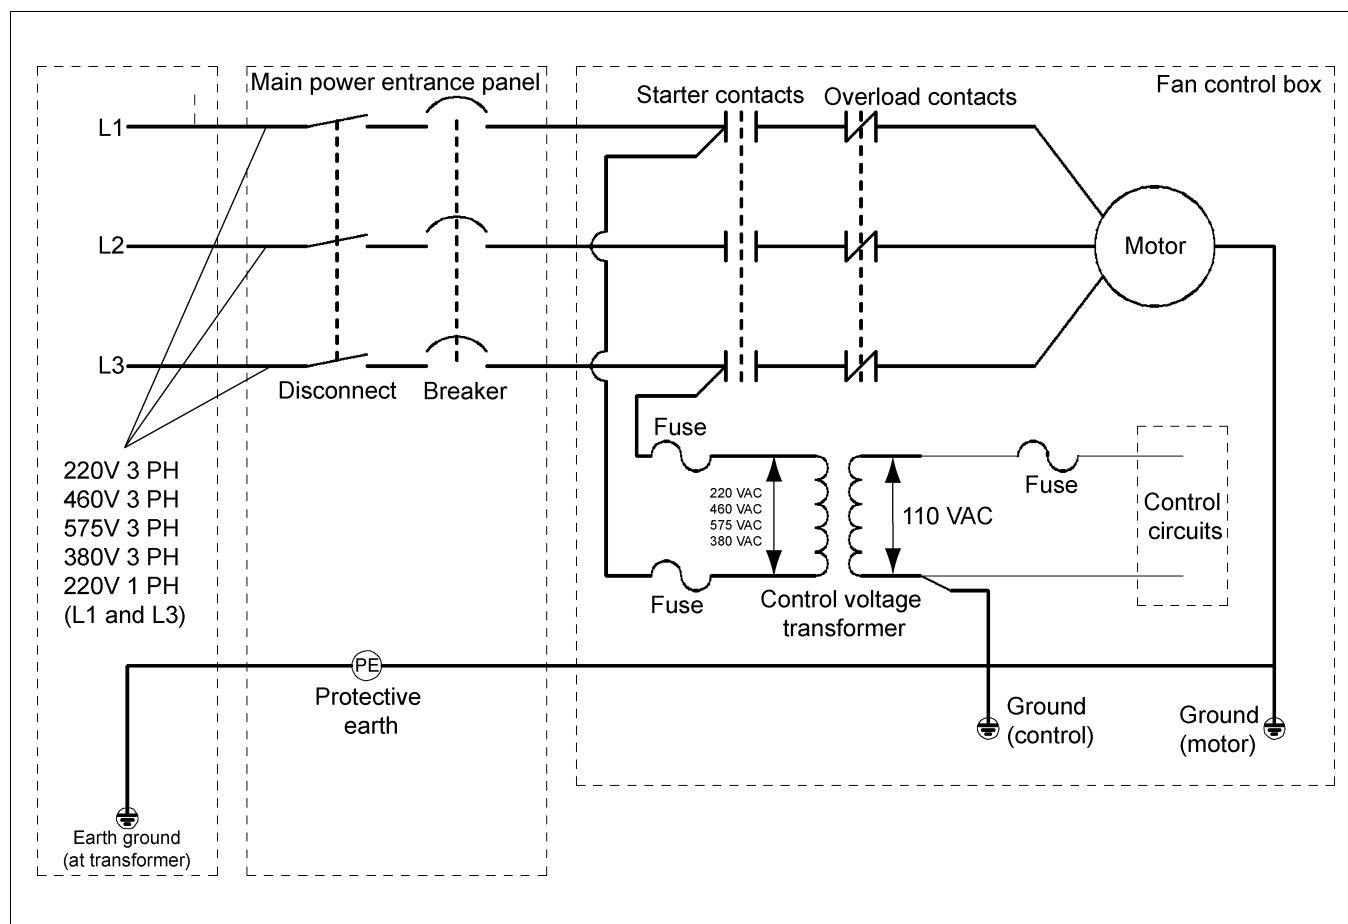

Figure 3F
**Figure 3F** details the configuration for correct main power installation. Use the diagram in conjunction with the electrical load information and wire size information provided. The diagram details the correct main power installation for 220V 1 PH, 220V 3 PH, 460V 3 PH, 575V 3 PH and 380V 3 PH 50 Hz power supplies.